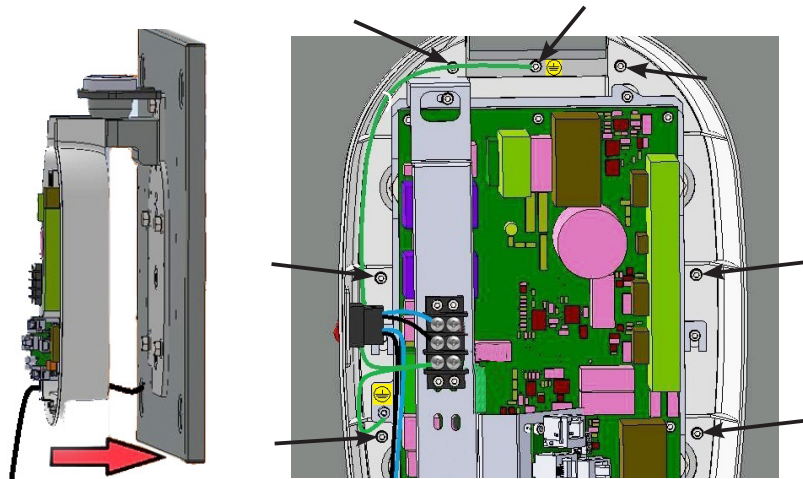

Figure 16: Fix base unit rear cover along with power board assembly and fix ground wire.
- Fix the base unit rear cover along with power board assembly to the base unit plate with six M3x6 HSHC screws using 2.5mm allen key as shown in Figure 16 . Fix the ground wire coming from terminal block to the grounding location with M3x10 HSHC screw and M3 plane washer using 2.5mm allen key as shown in Figure 16 .